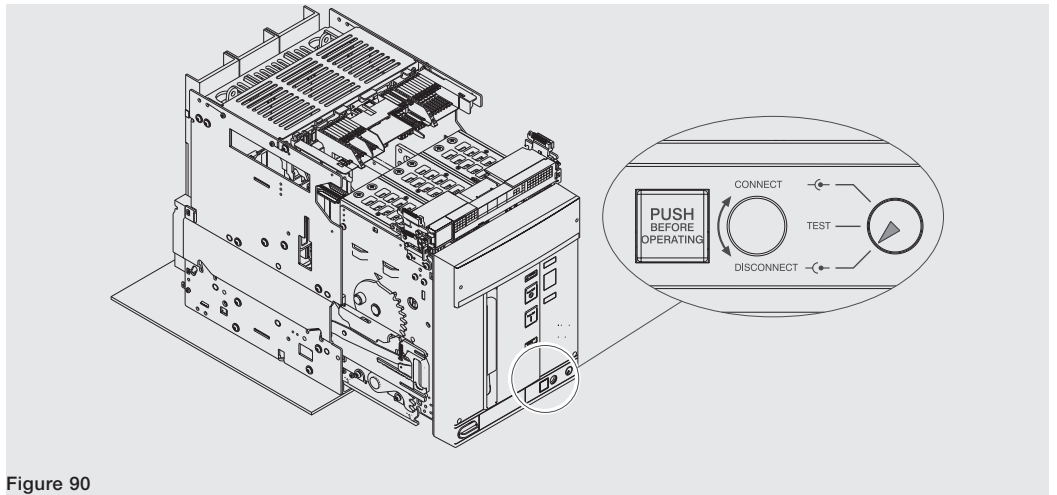

Figure 90
6. Make sure that the signalling device indicates the **DISCONNECT** position. See Figure 90.